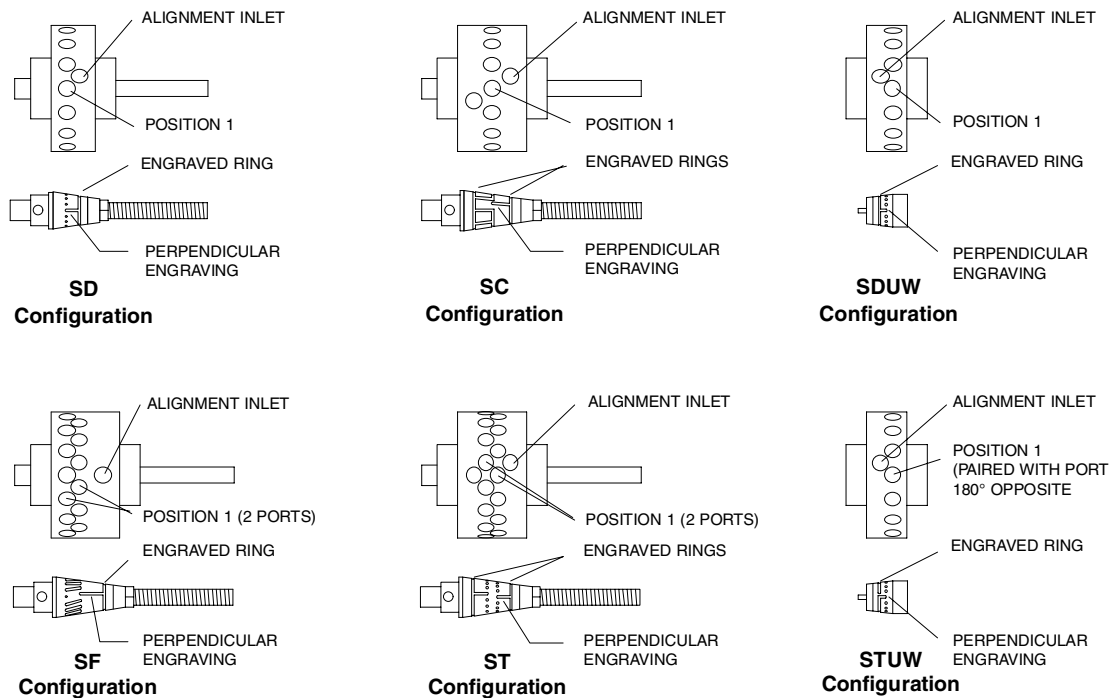

Figure 10: Typical multiposition valve bodies and seals
The valve will have either one (SD and SC types) or two (SF and ST types) rows of ports evenly spaced around the circumference of the body. See **Figure 10**. In addition there will be one (SD and SF types) or two (SC and ST types) “common” ports offset to either side of these rows. By convention, Position 1 falls counterclockwise from these common port(s) when the valve is viewed from the end away from the actuator. The rotor will have either one or two flow passages appearing as engraved rings around the seal, which intersect the common port(s). Flow passages perpendicular to the ring(s) connect the ring(s) to the selected port(s).
The only configuration which does not fall within this description is the STUW. Unlike the standard ST, these have one row of ports around the circumference, with two common ports offset in the same direction. The common ports are 180° apart, so only one shows in **Figure 10**. Special instructions and descriptions regarding STUW's will be highlighted in this manner at several points in the procedures which follow.
- Establish a flow of clean gas (50 psi is adequate) into the port offset away from the actuator. This port, called the alignment inlet in **Figure 10**, will be the designated inlet throughout this procedure.
Establish gas flow into the common port at 6 o'clock (alignment inlet in **Figure 10**).
- With the valve facing you and the actuator behind the valve, the port to the left of or counterclockwise from the alignment inlet corresponds to Position 1. (See **Figure 10**. This is the opposite of valves on air actuators.)